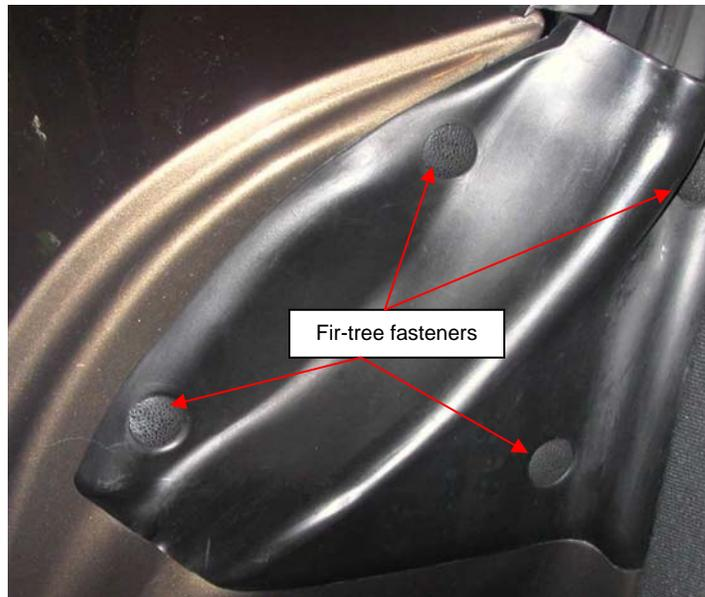
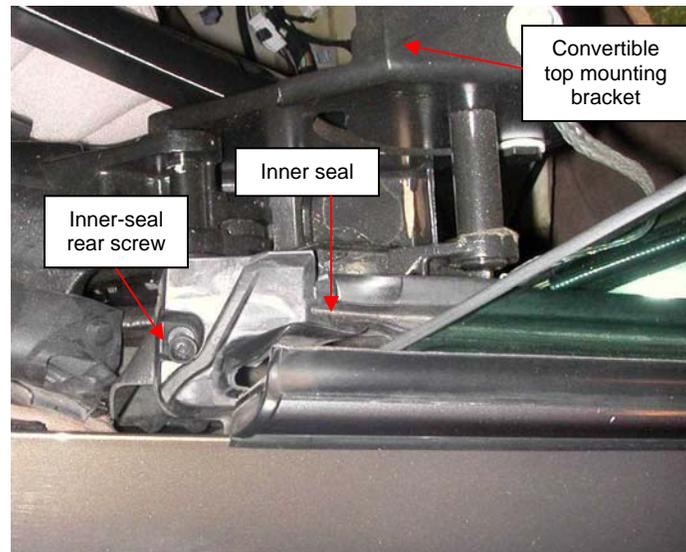
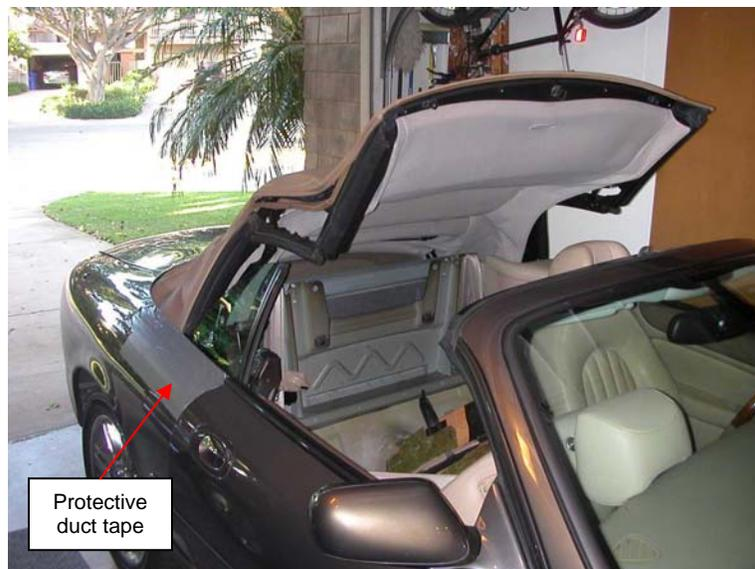
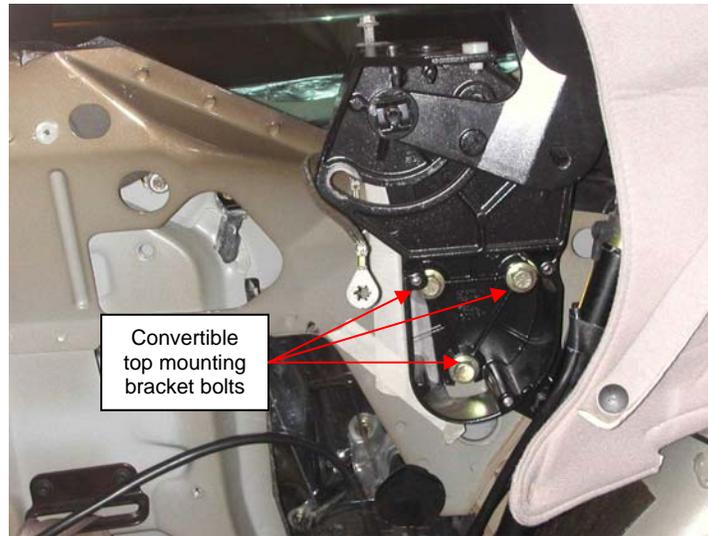

Fig. 13 Fir tree fasteners at front of window inner seal
Fig. 14 Window inner seal and convertible top mounting bracket
Fig. 17 Roof partially closed to allow access to top bracket cover and mounting bolts
Fig. 18 Convertible top mounting-bracket bolts
9. Remove (a) the window inner seal by extracting the four “fir tree” fasteners on the front of the seal (Sec. 76.40.33) (see Fig. 13) using a flat-bladed screwdriver and (b) the screw securing the rear of the seal (see Fig. 14, which also shows the convertible top mounting bracket). Then remove the two 8-mm bolts holding the inner seal carrier in place (Sec. 86.25.11) (not shown).
13. Apply several layers of duct tape or similar protective material to the fender surface to prevent possible scratches (see Fig. 17). Disconnect the battery negative ground strap, loosen the top of the trunk right-hand liner, and turn the convertible top hydraulic pump valve fully counter clockwise (Sec. 76.86.15, Steps 15 and 16). Manually raise the top to a partially closed position. This provides improved access to the convertible top mounting-bracket cover-plate screws, bracket (see Fig. 14 above), and bracket mounting bolts (see Fig. 18).